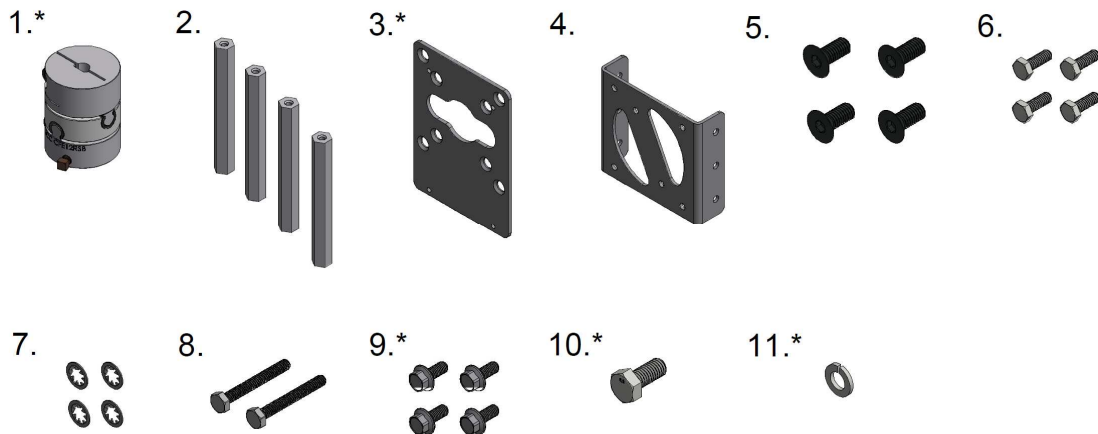

Figure 2: Components Supplied with a BR-OV-A... Bracket / Coupling Kit
Figure 2 shows the components supplied with a BR-OV-A... bracket / coupling kit:
* Component varies depending on the BR-OV-A... bracket / coupling kit. Image shown in Figure 2 may not be representative of actual component.